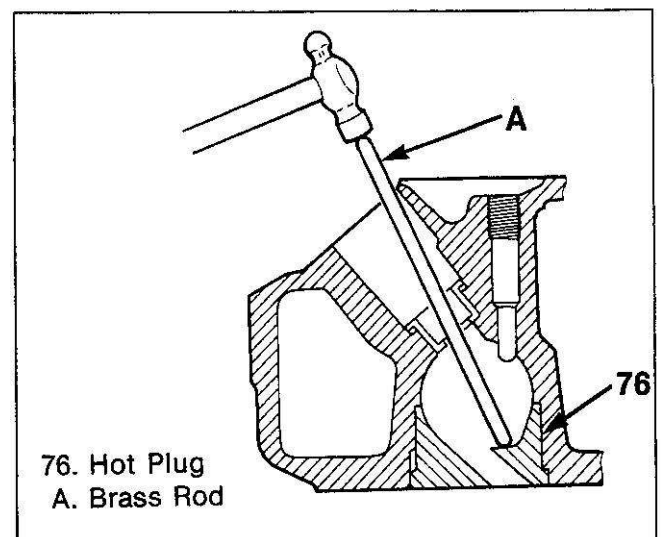

Figure 40. Removing the Hot Plug
1. Place the cylinder head (14) on wooden blocks.
2. Remove the fuel injection nozzle holder assembly, washer (77) and corrugated washer (78).
3. Insert a suitable round rod sizing 3 to 5 mm (0.1 to 0.2 in) in diameter into nozzle holder fitting hole to touch the hot plug (76), then drive out the hot plugs using a hammer (figure 40).